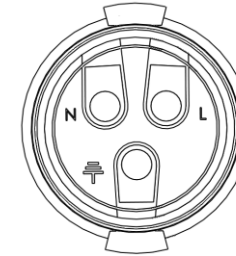

Figure 15 AC Connector
- Screw the green-yellow wire to the ground terminator in the AC Connector (Figure 15).